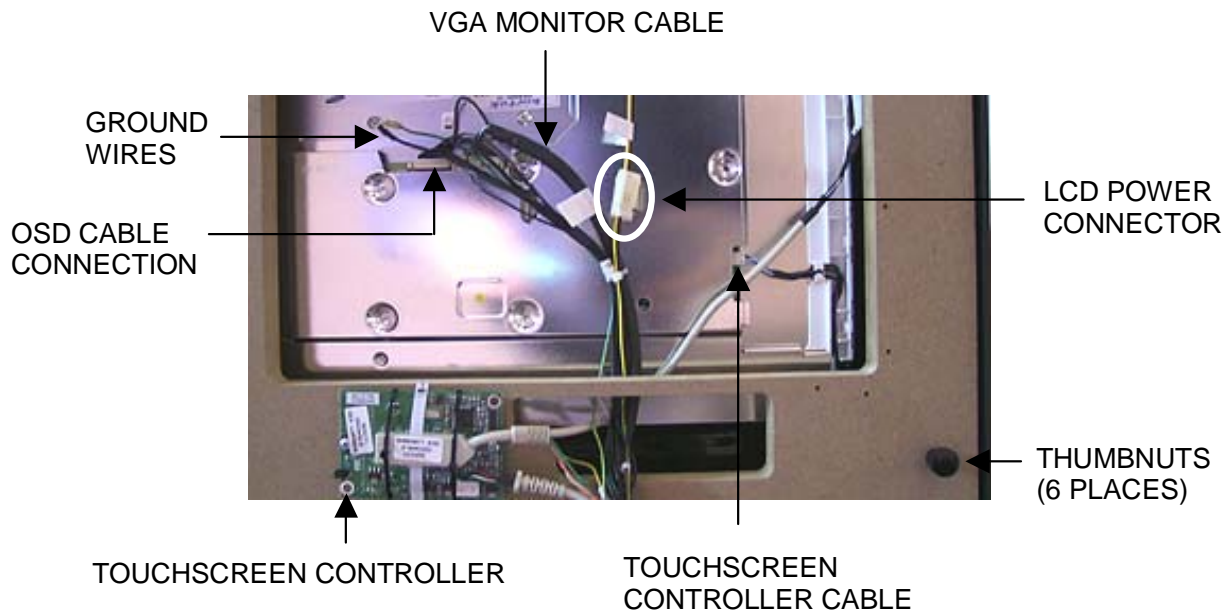

FIGURE 1 - REAR VIEW OF MONITOR / UNDERSIDE OF BEZEL
3. Remove the 6 thumbnuts fastening the bezel to the game. See Figure 1.
7. Remove the tie wraps securing the wire harnesses to the back of the monitor. Disconnect the VGA monitor cable connection and ground wire. See Figure 1.
8. Disconnect the LCD connector and remove the OSD cable connection from the monitor. See Figure 1.
9. Remove the tie wrap around the touchscreen controller and disconnect the touchscreen controller cable; disconnect the Molex connector (orange and gray wires), as well. See Figure 1.